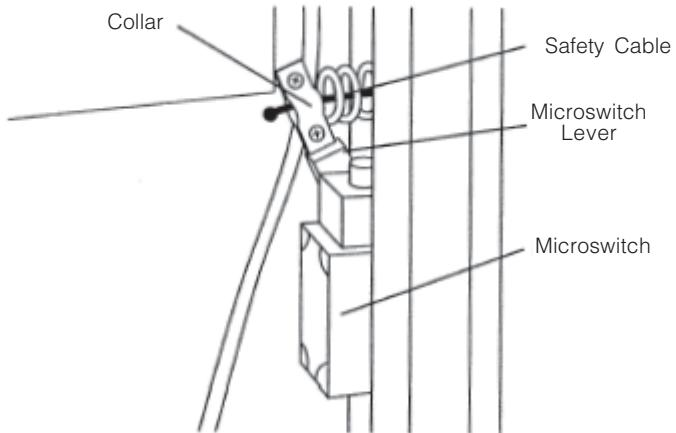

Figure 3-30. Connect Safety Cable to Microswitch
13. Insert end of service-side cable through collar of the microswitch lever, located in main control panel (see Figure 3-30). Tighten collar.